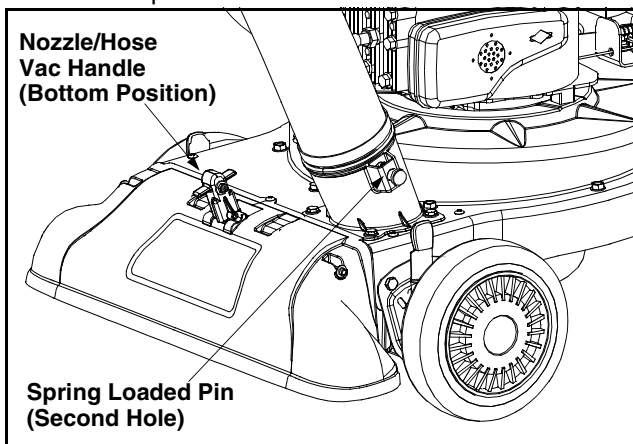

Figure 11
- Place nozzle/hose vac handle in the bottom position on the nozzle to redirect vacuum to the hose assembly. See Figure 11.